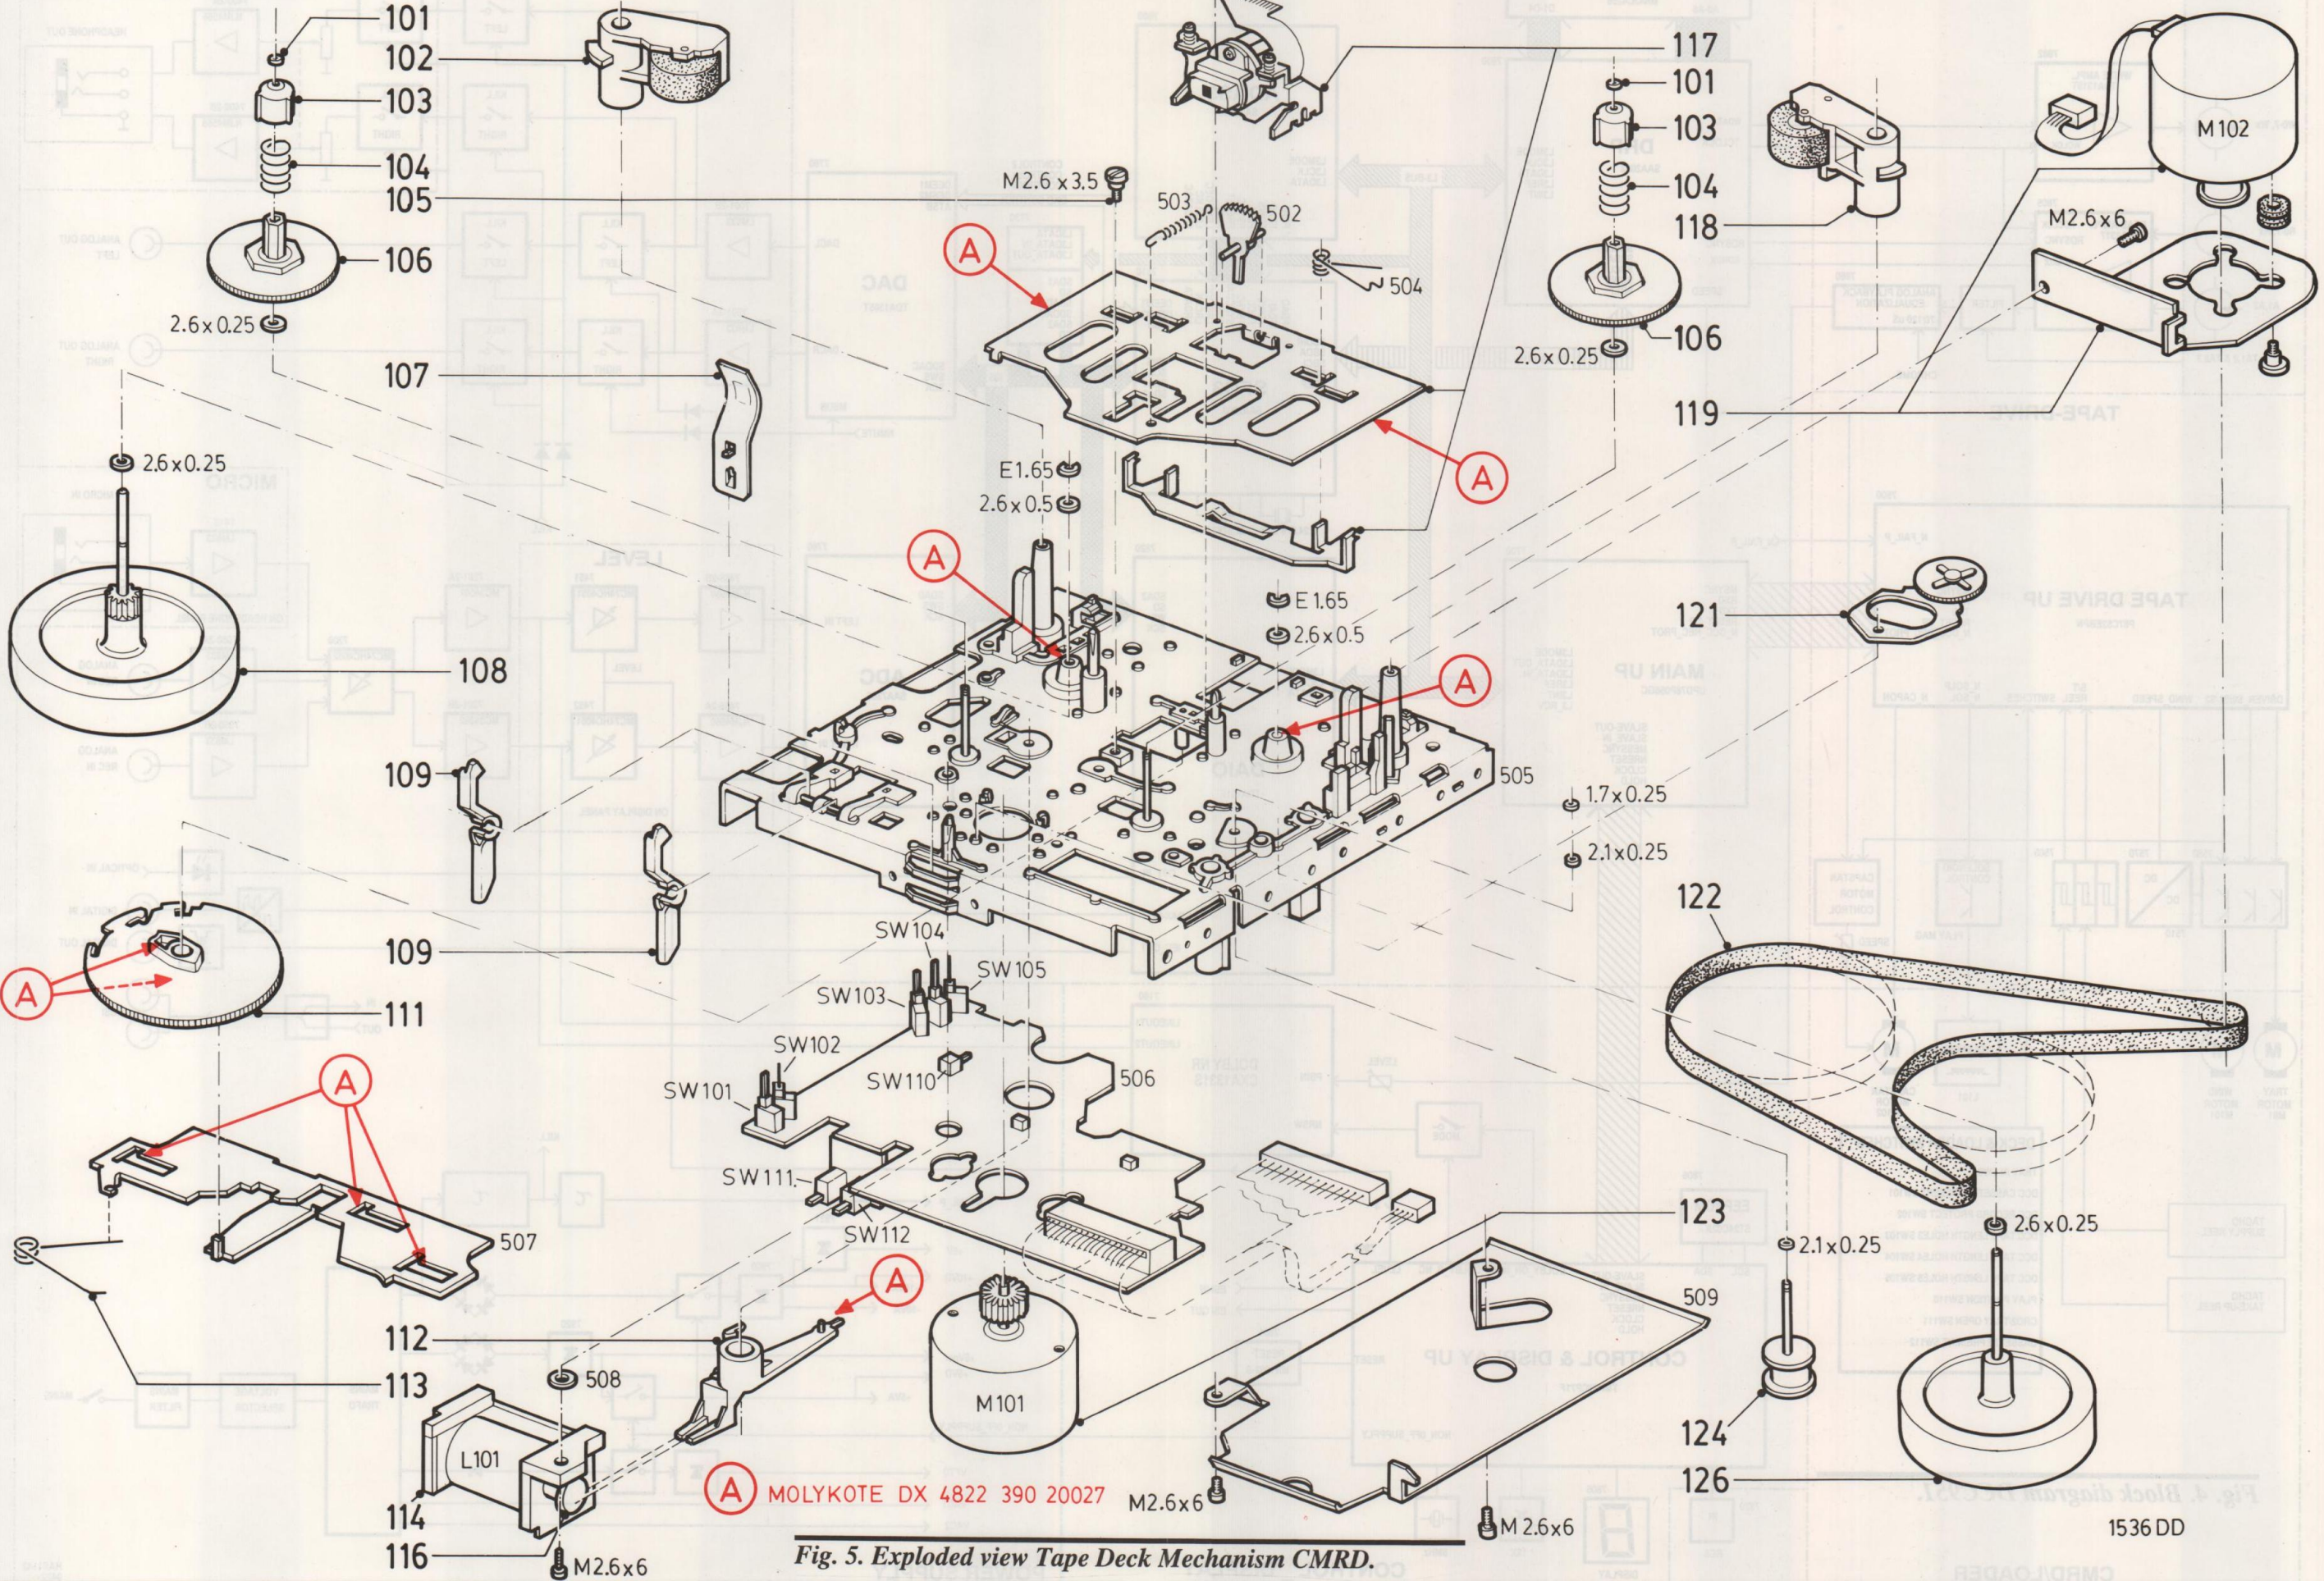

Fig. 5. Exploded view Tape Deck Mechanism CMRD.
The tape drive part consists of the loader part and the CMRD high speed DCC tape deck mechanism. The loader is a Landscape Tray Loader (LTL). Other loader types can be applied in other sets, more details about loader can be found in concerning service manuals. In this description only attention is paid to the tape deck drive mechanism part. In figure 5 the Exploded view of this CMRD deck has been shown.
All mechanical positions of the headsupport are achieved by the flywheel rotation (item 108). The gearwheel on this flywheel drives the command gearwheel (item 111) which positions, via cams at the bottomside, bracket item 507 (explanation follows). Via the cam on the top side (see exploded view, figure 5; item 111), the headsupport assembly item 117 is moved. By turning the command gearwheel the headsupport assembly (via a bent part of support-bracket 117A) is driven inside. By this movement the headsupport with head and pinch rollers are also moved towards tape and capstan. Dependant on the position of bracket 507 the left or the right pinch roller, by means of corresponding pinch roller spring, indicated with 504, is pressed against its capstan.